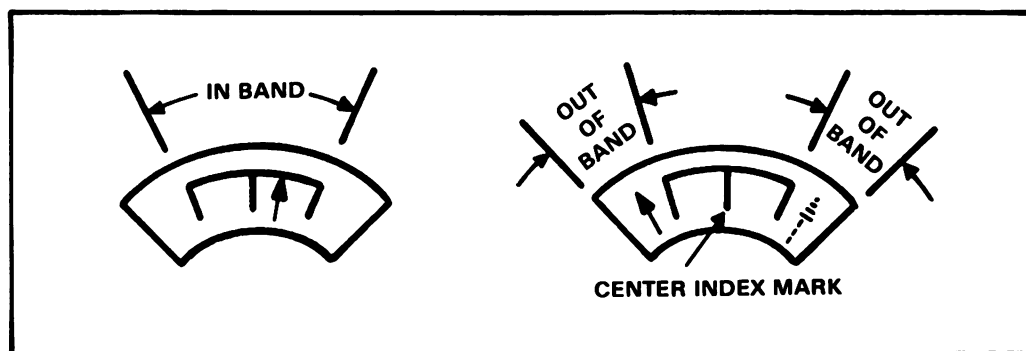

Figure 1.
(1) They will register either in-band or out-of-band (figure 1) when the TEST OPERATE switch is held in the TEST position and the SELF-TEST switch is rotated to each of the 7 test positions.